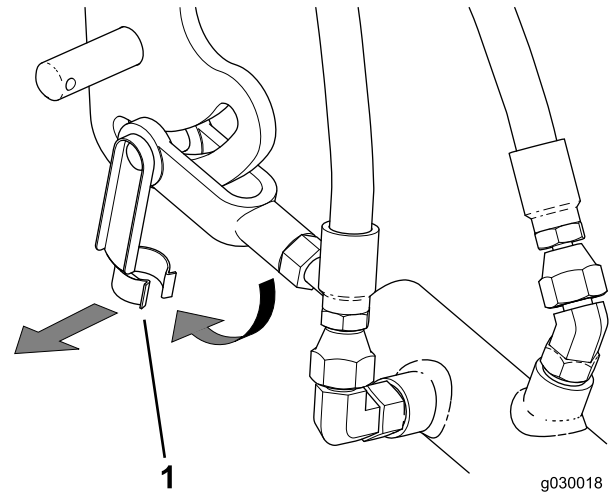

Figure 21
- Remove the spring-clevis pin securing the yoke to the traction lever (Figure 21).